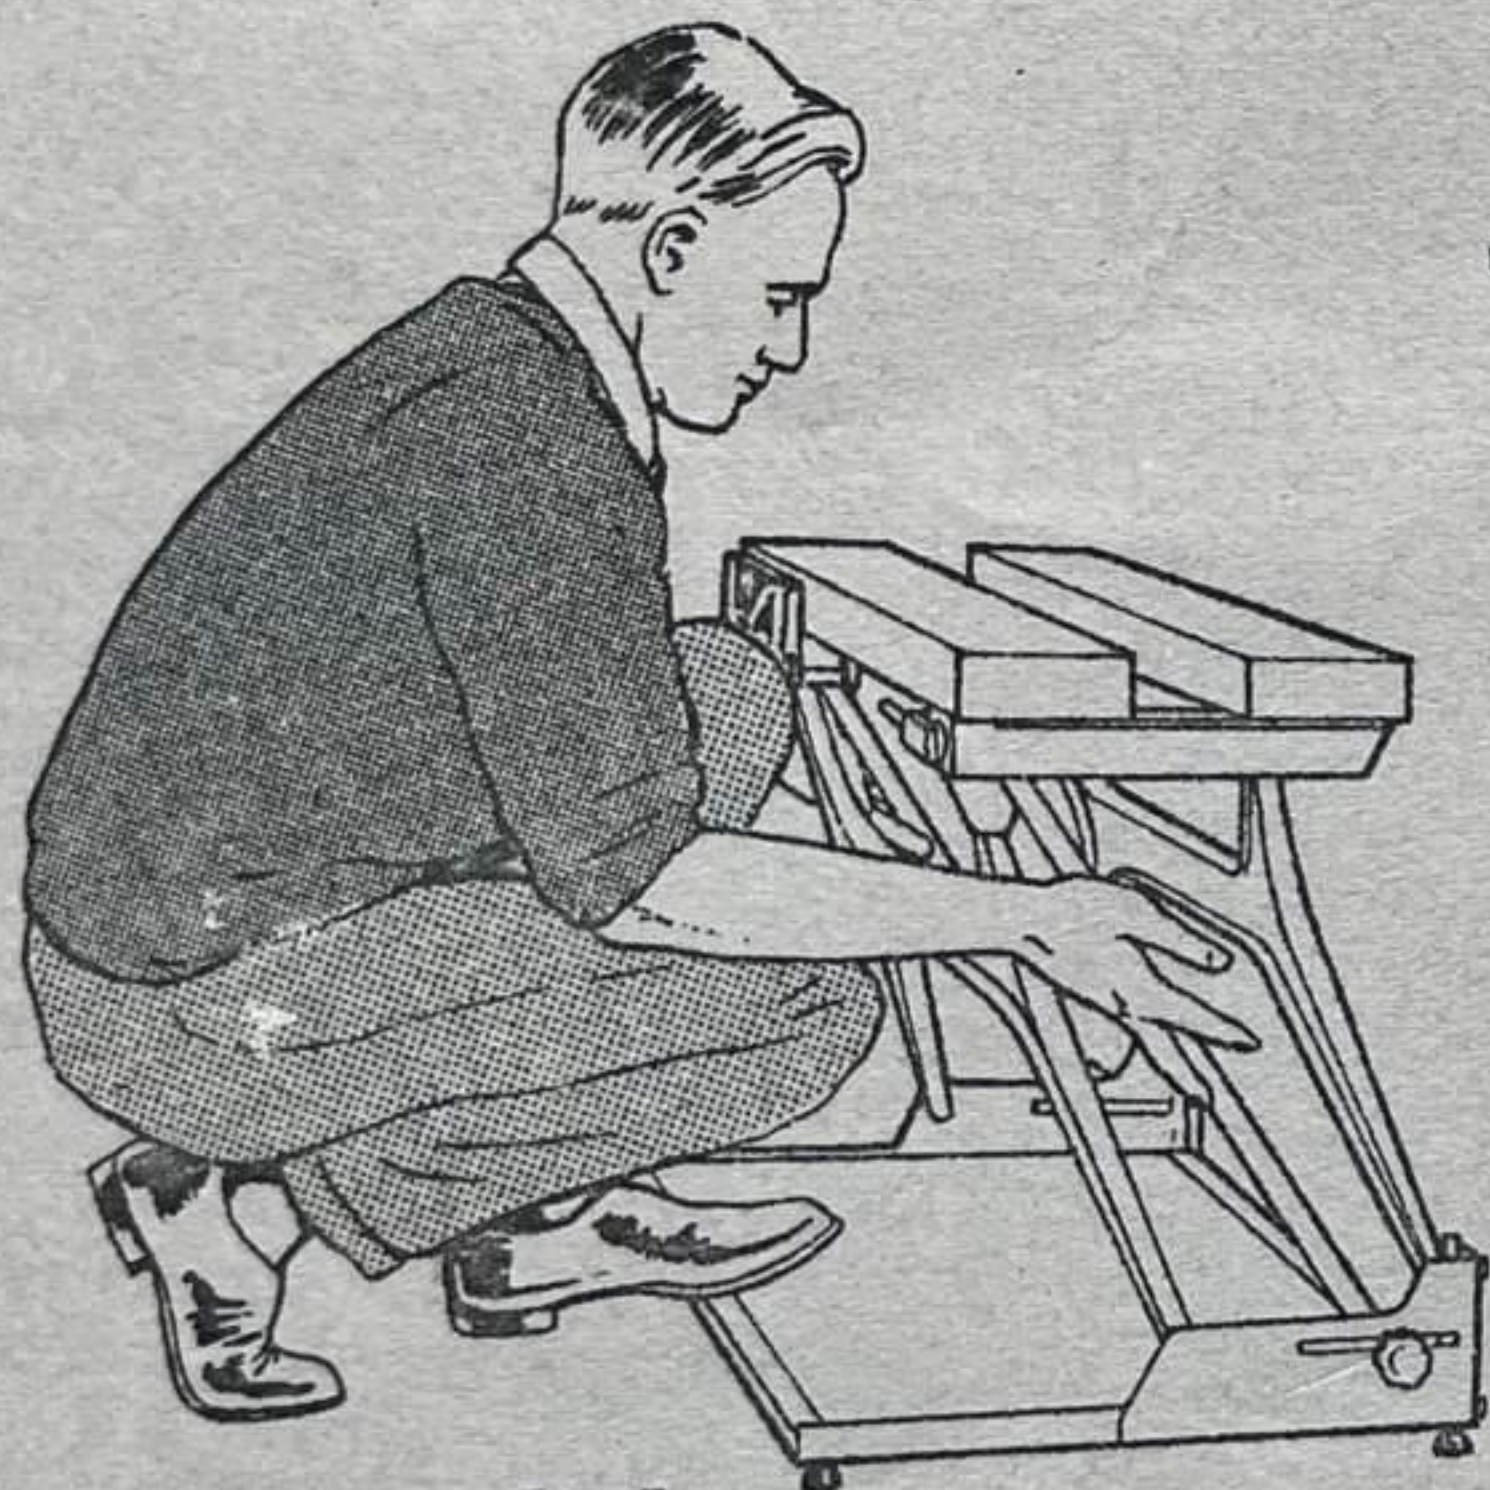

Fig. 5
3. Holding the baseboard down with one foot if necessary, swing the top up fully into position. The clamp-nuts on the bottom of the sidestays may tend to stick a little in the slots, so it is best to lift the top by *placing one hand under each side-stay* during this operation, as shown in Fig. 5, which prevents this from happening.